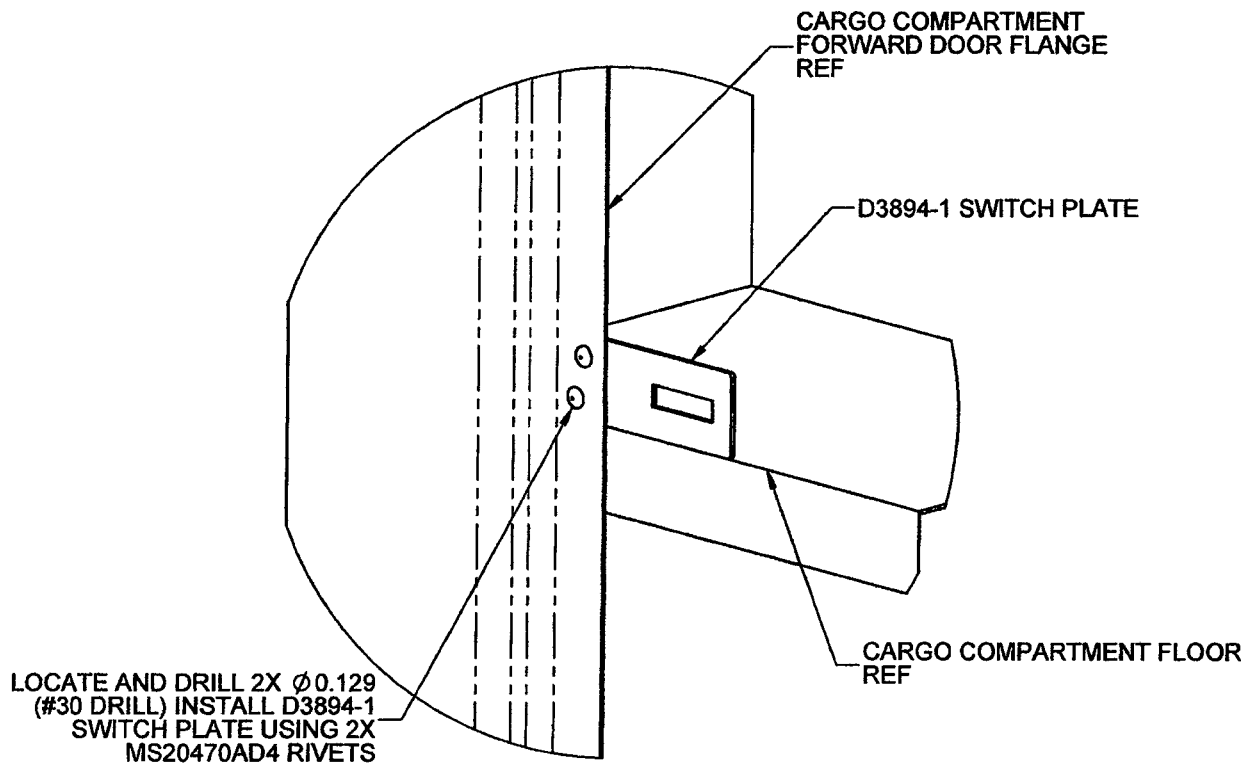

FIGURE 1: DSI 9446-011 SWITCH RELOCATION KIT INSTALLATION
- 2) Position the D3894-1 switch plate near the bottom of the flange adjacent to the cargo compartment floor so that the switch will contact the door directly. See Figure 1.